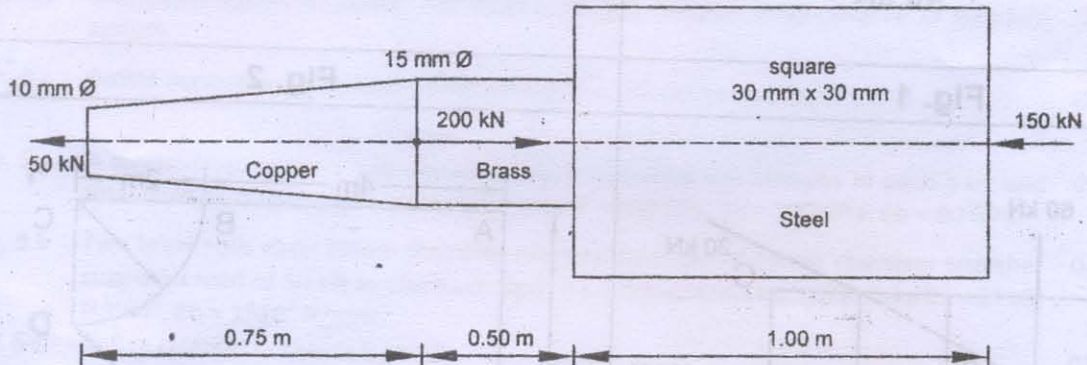

Fig. 8
- Que. 5.a A stepped bar is loaded as shown in Fig.8. Calculate the stresses in each part and total change in the length of the bar. Take  $E_s = 200 \text{ GPa}$ ,  $E_c = 100 \text{ GPa}$ ,  $E_b = 80 \text{ GPa}$ . 03